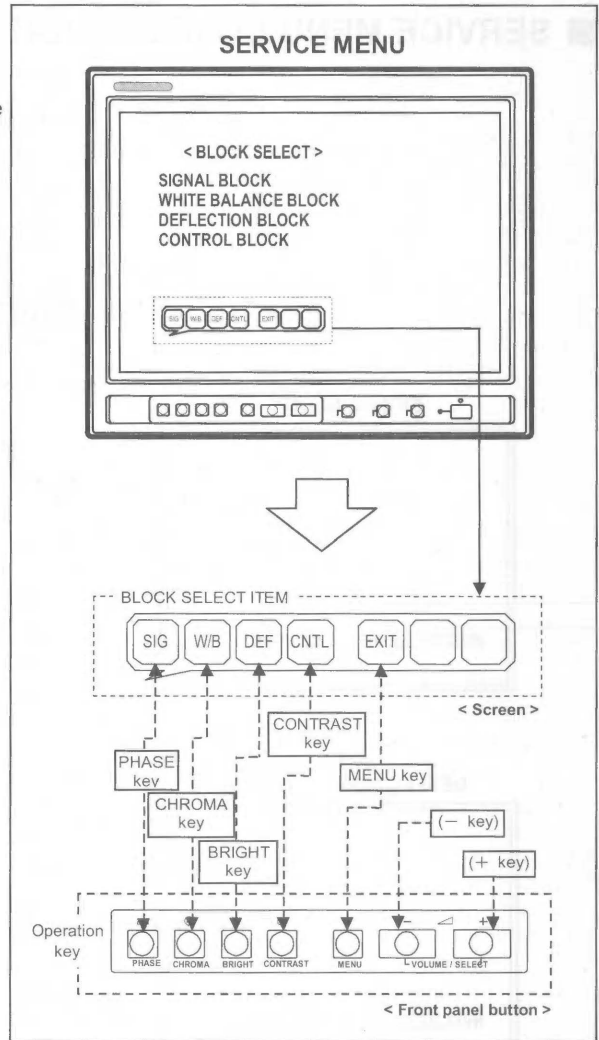

Fig. 5
(2) SELECT OF SUB MENU SCREEN (Fig. 5)